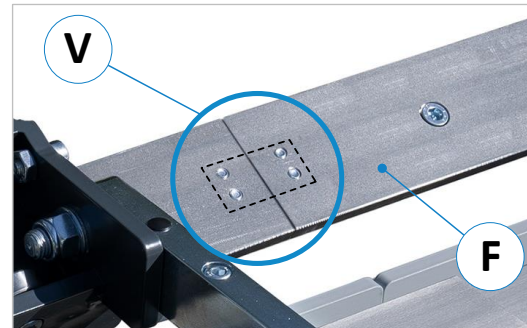

Figure 10: Flat bar for BK/F and E/KF
⇒ Figure 10: Screw the inclined mounted guide flat bars (F) of the roller conveyor tightly together with the screwed-on connecting bracket (V) from the rear side. When attaching the connecting bracket (V), make sure that the flat bars are exactly flush with each other → The air gap between the flat bars should be as small as possible.